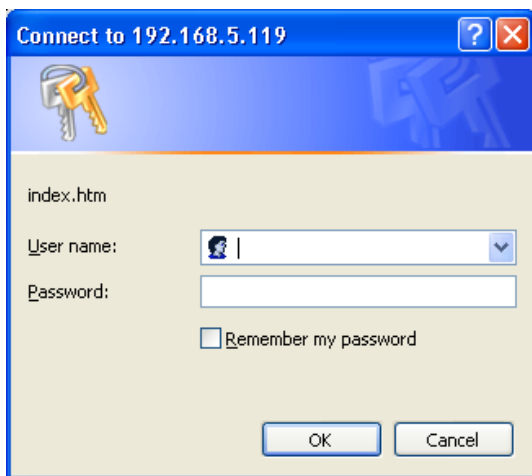

Figure 12. Example of Logon Screen
8. Now open your Internet Explorer program. In the address line enter <http://100.100.100.100> and then hit Return. You will then be asked for a username and password. An example of the login screen is shown in Figure 12. If this is your first time logging onto a UPLC™ unit from the factory, type “administrator” for the